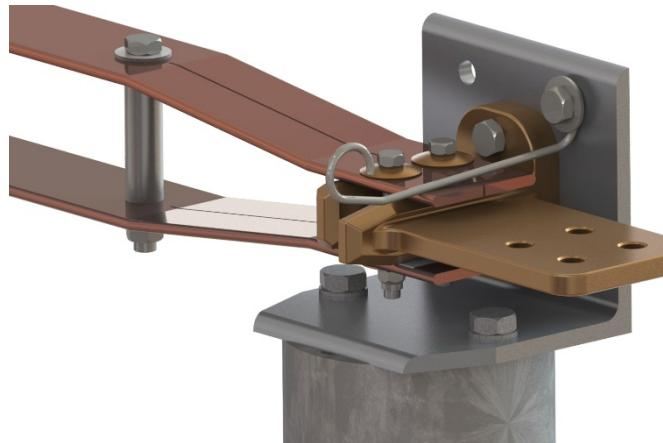

Figure 7: Adjusting Arcing Horn
- Readjustment of the arcing horn can be done by grasping it firming and bending until the action described above is achieved. The arcing horns should have light pressure, not forcing the blade into place when closing. See Figure 7.